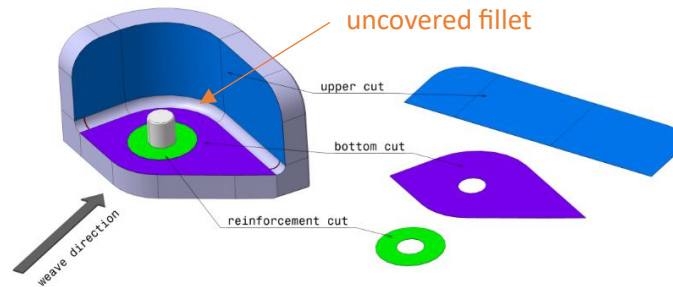

Figure 8
- Adding additional material to cover fillets (Figure 8),